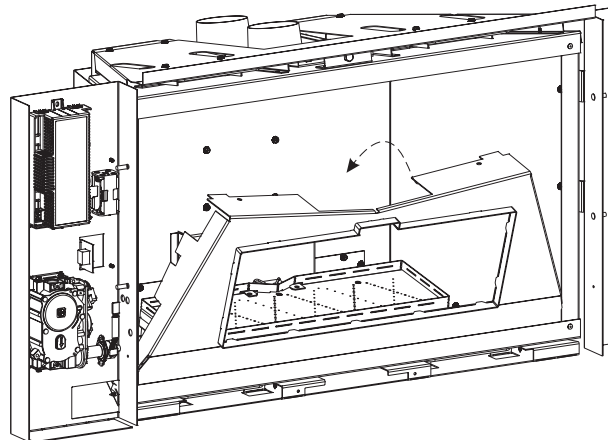

Figure 22
- b. Gently lower the burner cover down over the burner and onto the firebox bottom. **See Figure 22.**